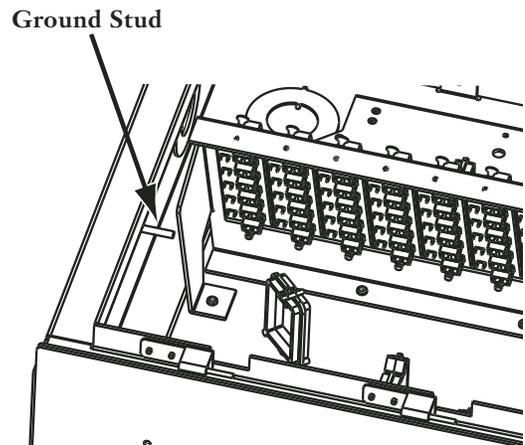

Figure 8
- b) Attach the other end of the ground wire to the ground stud inside the cabinet (Figure 8).